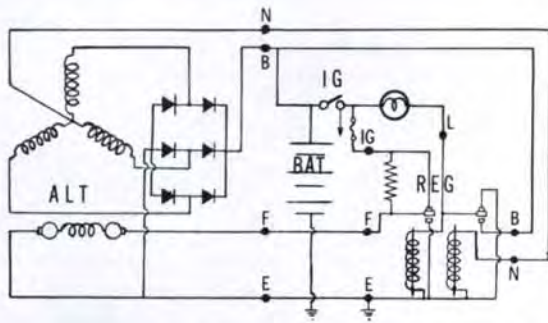

Fig. 76—Schematic wiring diagram of alternator and regulator used on Models L175, L225 and L225DT. Refer to paragraph 83 for details of operation.
When ignition switch (IG—Fig. 76) is closed, current from battery flows through indicator lamp (L) and "L" terminal on regulator, through one set of closed points to grounded (E) terminal, causing lamp to light. Current also flows through "IG" terminal on regulator, through other set of points, then through "F" terminals on regulator and alternator to energize alternator field coils.